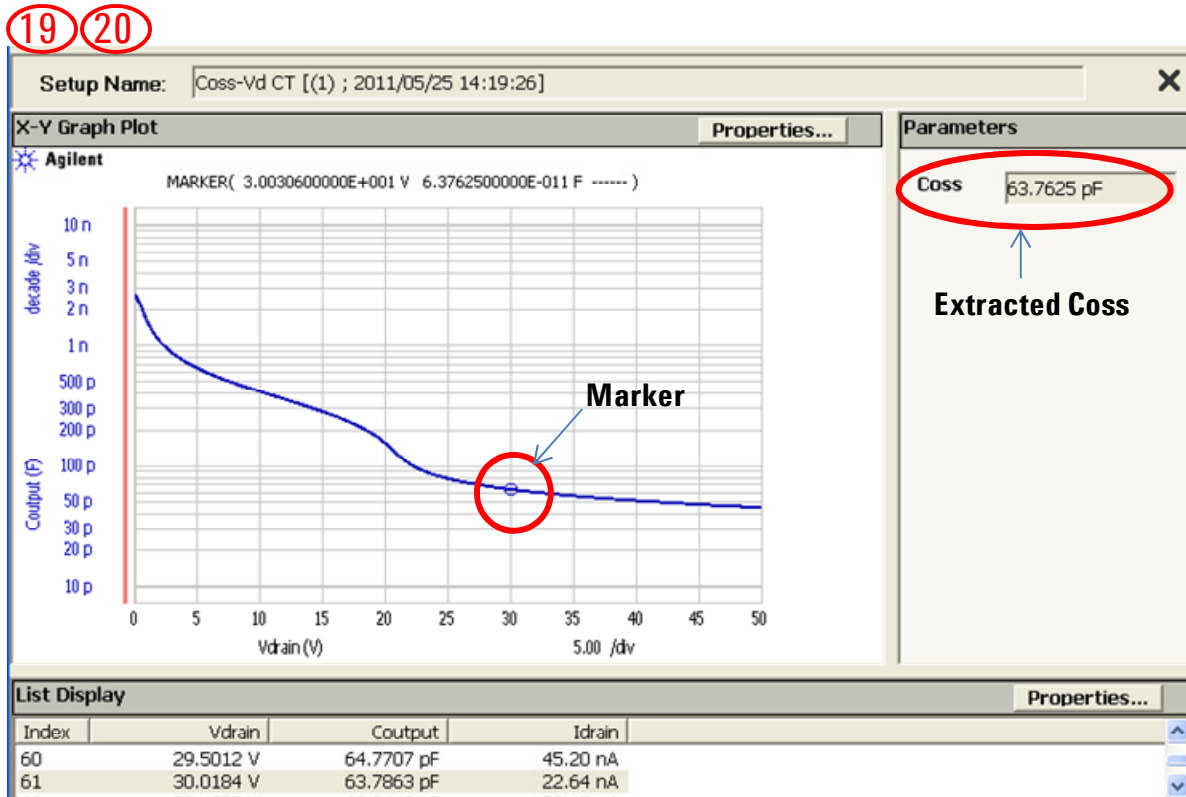

Figure 3-78. Coss-Vd CT output and extracted Coss.
Step 20. You can see the same graph shown in figure 3-78.